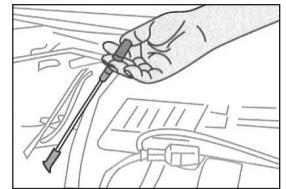

Figure 2
1. Remove the vehicle's oil dipstick (Figure 2).